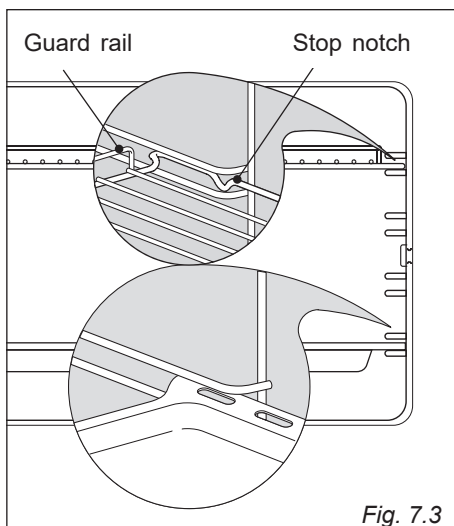

Fig. 7.3
- Slide in, on the guides, the shelf and the tray (fig. 7.3).